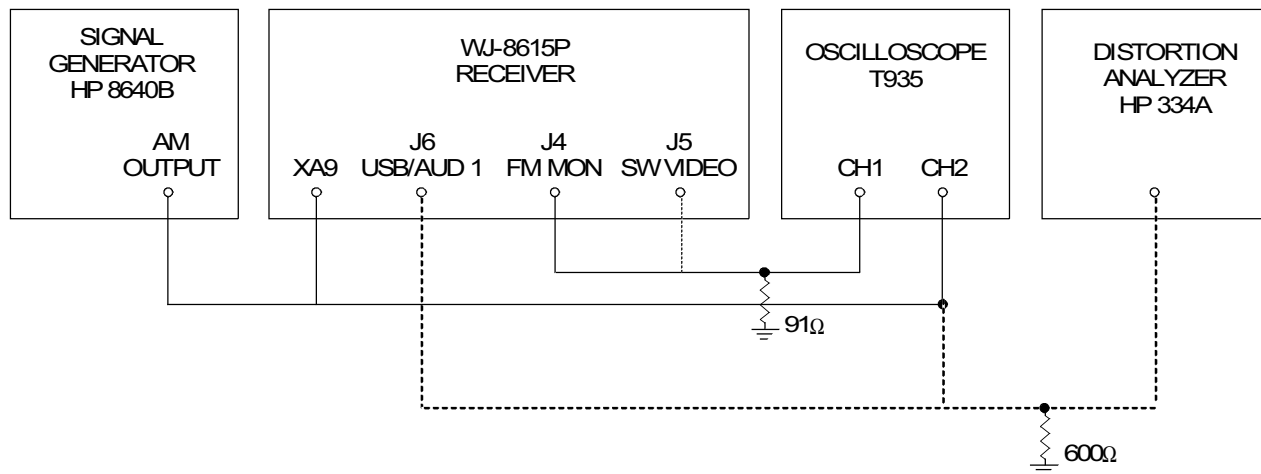

Figure 4-4. Audio/Video Performance Test, Equipment Connections
1. Refer to **Figure 4-4**.
7. Remove the oscilloscope channel 2 input connection from the receiver and connect the oscilloscope channel 2 input and the distortion analyzer, with a 600 Ω termination, to the J6 (USB/AUD1) output on the receiver rear panel (as illustrated in **Figure 4-4** by the heavy dotted line.)